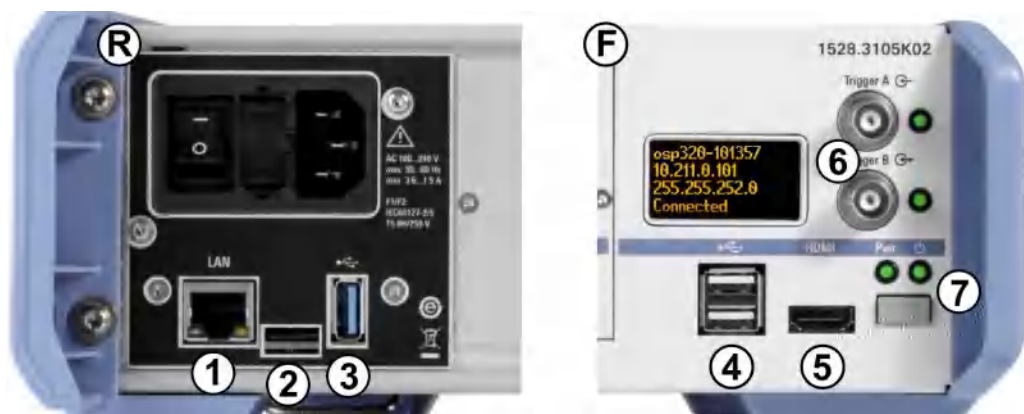

Figure 2-16: Connectors and functional elements on the switch unit's rear and front panel
Alternatively, with any of the R&S OSP models, you can control your switch unit via an external mouse and keyboard, connected to the USB interfaces (see 4 in Figure 2-16). Optionally (especially without integrated touchscreen), you can connect an external monitor to the switch unit's HDMI interface (see 5).
For connecting external devices, see Figure 2-16.
- As on the right-hand side in Figure 2-13, connect an external monitor to the HDMI connector on the unit's front panel (labeled 5 in Figure 2-16). Also connect a mouse and keyboard to the USB connectors, labeled (4).
- Connect the switch unit to a local area network (LAN) by the RJ45 connector on the unit's rear panel. The connector is labeled (1) in Figure 2-16. Read the unit's IP address from the status display and proceed as described in Chapter 2.3.1.2, "Manual Remote Operation", on page 33, or Chapter 2.3.1.3, "Remote Operation by SCPI Commands", on page 33.